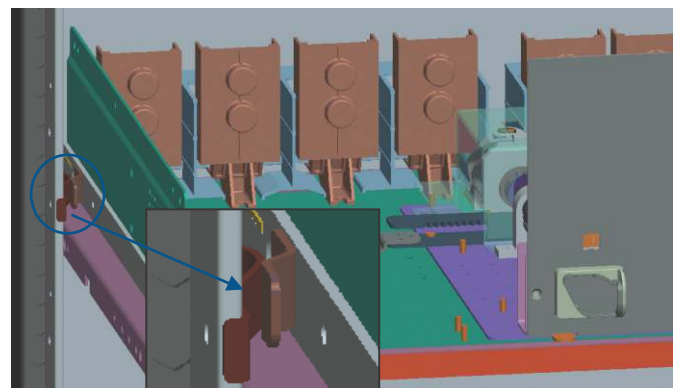

Figure 19 - Earthing for full width module
8. The 'make first, break last' type scraping earth system is provided on all draw out units. For full width module, scraping earth contact is provided on left side of the module. Counter part of the scraping earth is mounted on vertical connection of the main earthbar Figure 19.